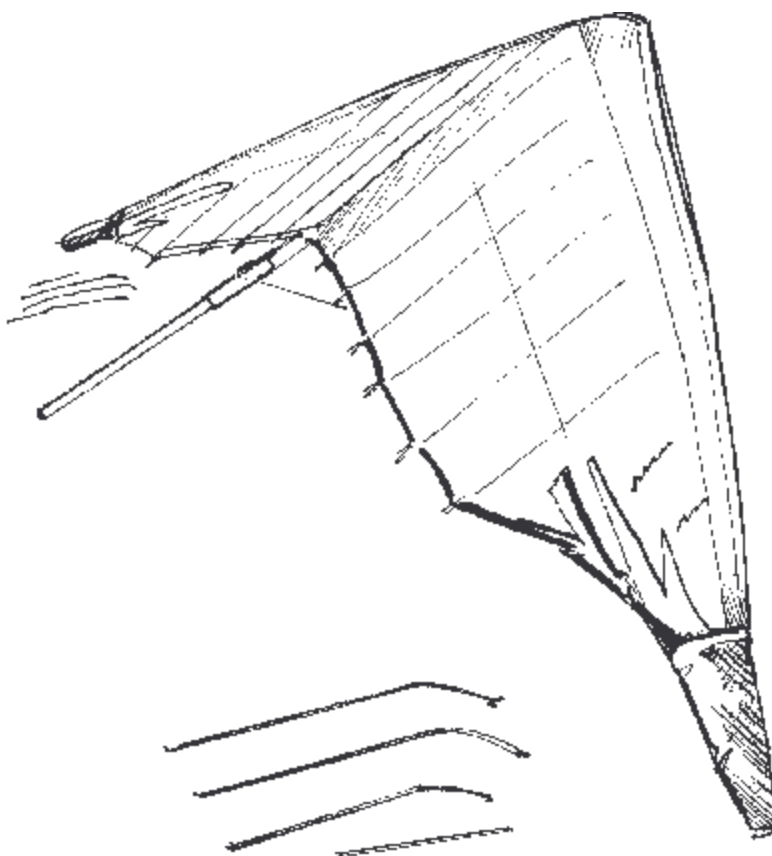

Fig. 13
4.1.2. Pull out the washout struts and place them along the leading edge out of the sail in direction of the tips. Remove the battens from the outboard section of the sail. Put the outboard wing tip bags on (Fig. 13).